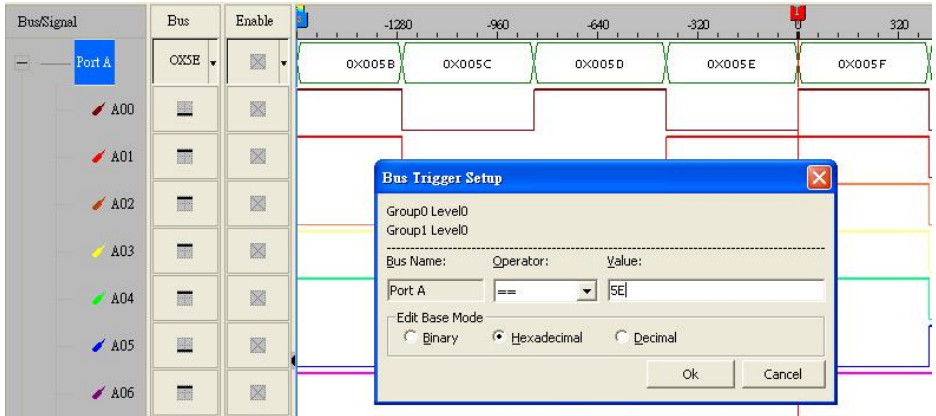

Fig 3-26 – Bus Trigger Setup
Step 4. Click run and activate the signal from the tested board to the system to get the result as shown in Fig 3-26.